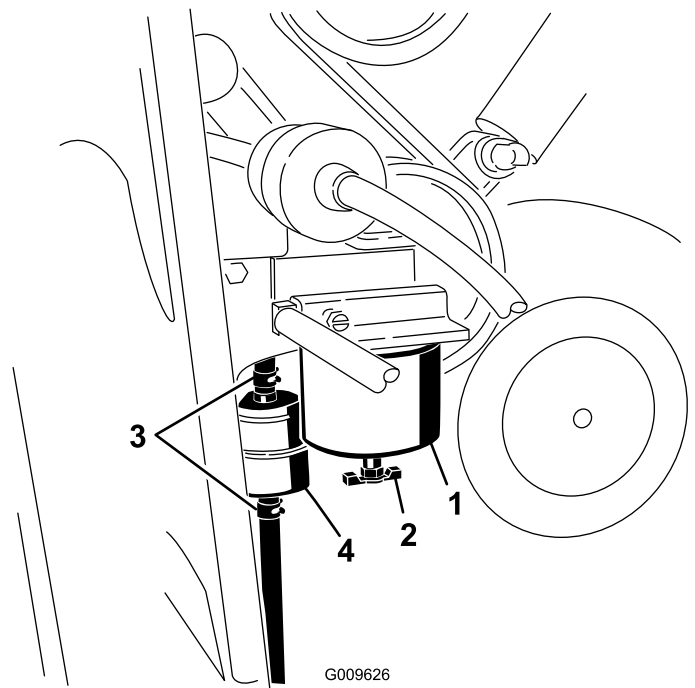

Figure 37
1. Locate the fuel filter on the right side of the engine (Figure 37) and place a clean container under it.
1. Locate the fuel filters on the right side of the engine (Figure 37) and place a clean container under it.
2. Clean the area where the filter canister mounts (Figure 37).
3. Remove the filter canister and clean the mounting surface (Figure 37).
5. Install the filter canister by hand until the gasket contacts the mounting surface, then rotate it an additional 1/2 turn (Figure 37).
6. Locate the in-line filter behind the fuel filter canister (Figure 37) and note the direction of flow arrow on the side of the in-line filter.
7. Open the clamps on each end of the in-line filter and slide the hoses off of it (Figure 37). Discard the filter.
8. Slide the hoses over the end of a new filter (Figure 37), ensuring that the arrow on the filter is